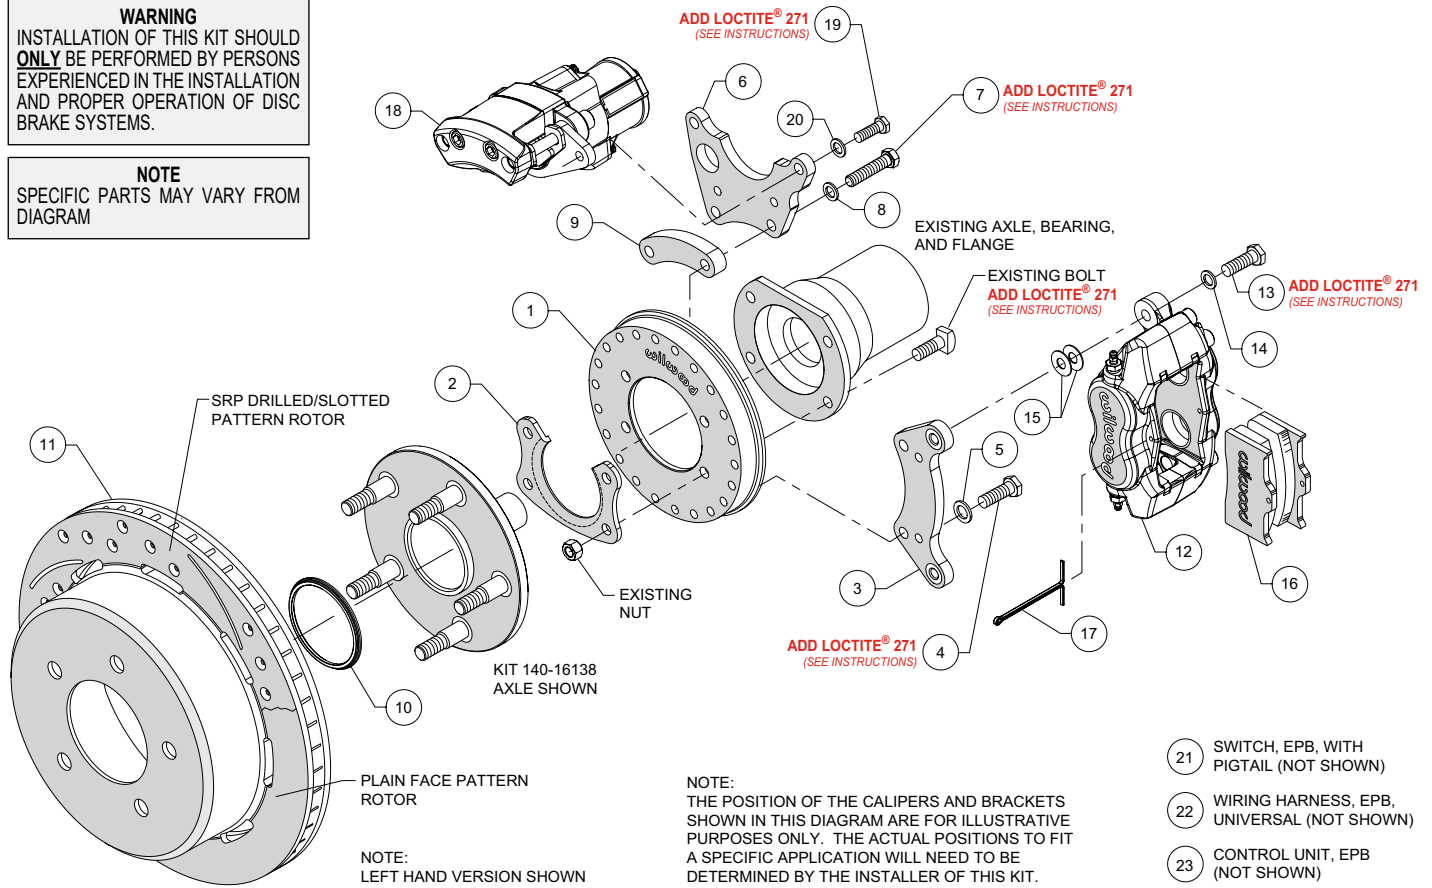
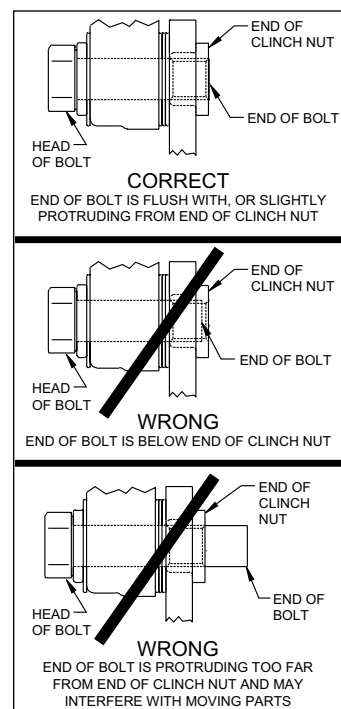

Figure 1. Typical Installation Configuration
Figure 5. Clinch Nut Engagement Diagram
NOTE: Numbers in parenthesis refer to the parts list and Figure 1 on the preceding pages.
CAUTION: All mounting bolts must fully engage clinch nuts. Be sure to check that all bolts are either flush or protruding through flanged side of clinch nut after shimming, Figure 5.
- Orient the backing plate (1) as shown in Figure 1 and Photo 1, and slide it onto the axle housing flange. Ensure the backing plate fits flush against the axle housing flange. Reinstall the axle into the axle housing.
- Install the bearing retainer (2) with the opening pointing upward and the lip facing inward (toward the bearing), as shown in Figures 1 and 4, and Photo 2. Secure retainer and backing plate to the axle housing flange using the Original Equipment Manufacturer (OEM) bolts and nuts, Figure 1 and Photo 3.
- Start by determining the best location for the service caliper (12). This caliper is usually mounted in the 3:00 or 9:00 o'clock position, but may be rotated up or down approximately 45 degrees and still allow for proper bleeding, Photo 4. Orient the service caliper bracket (3) as shown in Figure 1 and Photo 5, and install to the backing plate (1) in the desired location using bolts (4) and washers (5). Temporarily tighten bolts. Next, mount the service caliper to the bracket using bolts (13) and washers (14). Temporarily tighten bolts. Check that the caliper (including inlet fitting and hose) has sufficient clearance to all surrounding components through the full suspension travel. Relocate the caliper/bracket on the backing plate as needed to ensure proper clearance is achieved.
- Determine the best location for the EPB caliper (18). **NOTE:** *The EPB caliper motor extends farther inboard than the service caliper and therefore needs additional consideration when determining a mounting location with sufficient clearance.* In the example application shown in Photo 6, the EPB caliper has sufficient inboard clearance to the leaf spring. However, if the EPB caliper were mounted closer to the 12:00 o'clock position, the inner body of the vehicle would hit the caliper during full compression of the suspension.
•Orient the EPB caliper bracket (6) as shown in Figure 1 and Photo 7, and install to the backing plate (1) in the desired location using bolts (7), washers (8), and spacer (9). Temporarily tighten bolts. **NOTE:** The EPB bracket is reversible. In one direction the bracket will position the EPB caliper closer to the service caliper, and vice versa if reversing the bracket. Next, mount the EPB caliper (18) to the bracket using bolts (19) and washers (20). Temporarily tighten bolts. **NOTE:** EPB calipers are Left and Right handed, however they can be used on either side of the vehicle to best suit your specific application. Check that the EPB caliper (including wiring harness connector) has sufficient clearance to all surrounding components through the full suspension travel. Relocate the EPB caliper/bracket on the backing plate as needed to ensure proper clearance is achieved.
•Once the caliper positions have been determined, remove both the service (12) and EPB (18) calipers, leaving both brackets in place on the backing plate. For both brackets, remove the bolts one at a time, apply red *Loctite*® 271 to the threads, and torque to 35 ft-lb.
•Slide the rotor registration adapter (10) onto the register on the axle flange with the smaller O.D. facing toward the rotor/hat (11), Photo 8. Align the hole pattern in the rotor/hat with the stud pattern on the axle flange and slide into place, Figure 1. **NOTE:** The rotor/hat must fit flush against the axle flange or excessive rotor run out may result. Install three lug nuts (finger tight) to keep the rotor/hat assembly in place while continuing with the installation. **NOTE:** Some OEM and after market axles come with stud sizes larger than 0.50" diameter. Verify stud size and have a qualified machine shop drill the bolt circle of the hat/rotor to the correct stud size, if necessary.
•**NOTE:** Please reference the caution statement at the beginning of the assembly instructions. Remount the service caliper (12) onto the caliper mounting bracket (3) using bolts (13) and washers (14), as shown in Figure 1. Initially place two .035" thick shims (15) on each bolt between the caliper and the bracket, Photo 9. Temporarily tighten the mounting bolts and view the rotor (11) through the top opening of the caliper. The rotor should be centered in the caliper, Photo 10. If not, adjust by adding or subtracting shims (15) between the bracket (3) and the caliper (12). Always use the same amount of shims on each of the two mounting bolts. **NOTE:** The end of each bolt must be flush with or slightly protruding from the head of the clinch nut, as shown in Figure 5. If necessary place spare shims (15) between washer (14) and caliper (12) mounting ear to achieve the proper clinch nut engagement. Once the caliper alignment and clinch nut engagement are correct, remove the bolts (13) one at a time, apply red *Loctite*® 271 to bolt threads, and torque to 40 ft-lb.
•Install the disc brake pads (16) into the service caliper (12), with the friction material facing the rotor (11), Photo 11. Secure the pads in place using the cotter pin (17), Photo 12.
- Mount the EPB caliper (18) onto the caliper mounting bracket (6) using bolts (19) and washers (20), Figure 1. Apply red *Loctite*® 271 to bolt threads, and torque to 30 ft-lb.
•NOTE: *The service caliper (12) in this brake kit utilizes a 1/8-27 NPT pipe thread inlet. OEM rubber brake hoses generally cannot be adapted to Wilwood calipers. The preferred method is to use steel adapter fittings at the caliper, either straight, 45 or 90 degree (use PTFE tape on pipe threads of adapter fitting for proper sealing to caliper) and enough steel braided line to allow for full suspension travel. Carefully route hoses to prevent contact with moving suspension, brake or wheel components. NOTE: Wilwood hose kits are designed for use in many different vehicle applications and it is the installer's responsibility to properly route and ensure adequate clearance and retention for brake hose components. Wilwood offers universal brake flex line hose kits, domestic (3/8-24 IF) chassis fittings, order:*